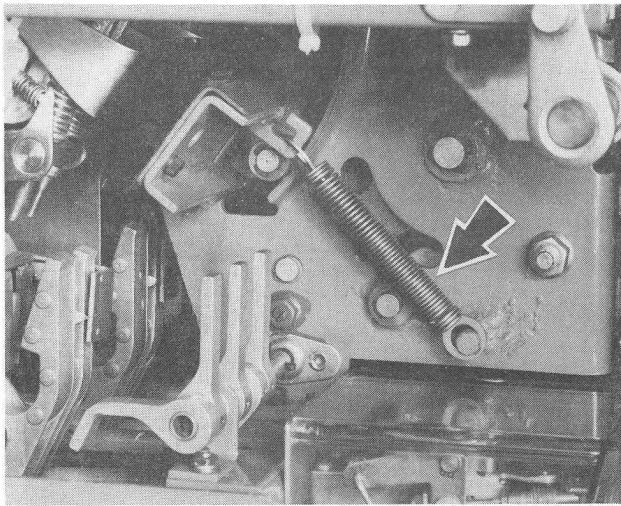

Figure 4
4. Remove right and left hand accelerating springs (Figure 4).